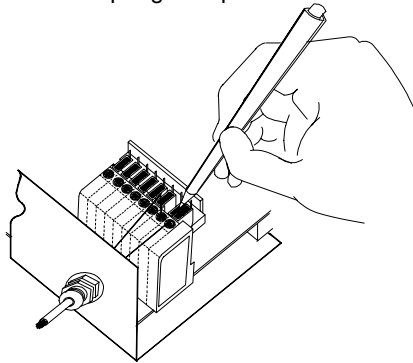

Figure 8 - System cable connections to the junction box
- Using a device such as a screwdriver, push down on the orange lever directly above the clamp (see Figure 8).